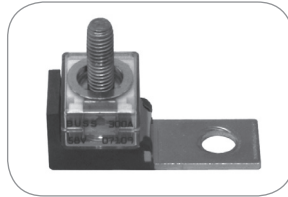

Fig. 5. Fuse MRBF inserted into the stud on CFBAR
A. Insert the fuse MRBF onto stud provided on the CFBAR. See Fig.5.